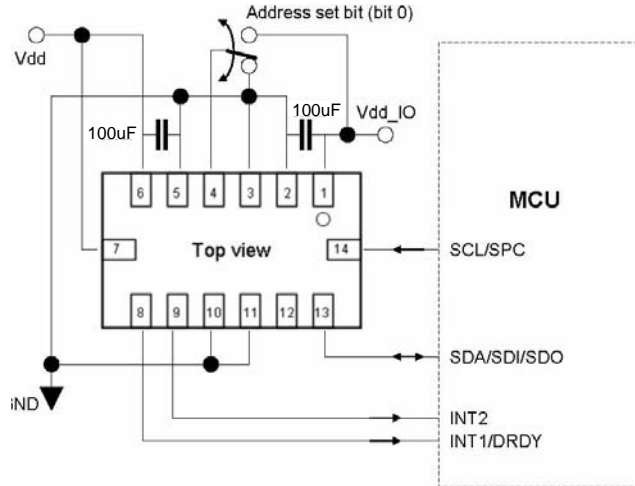
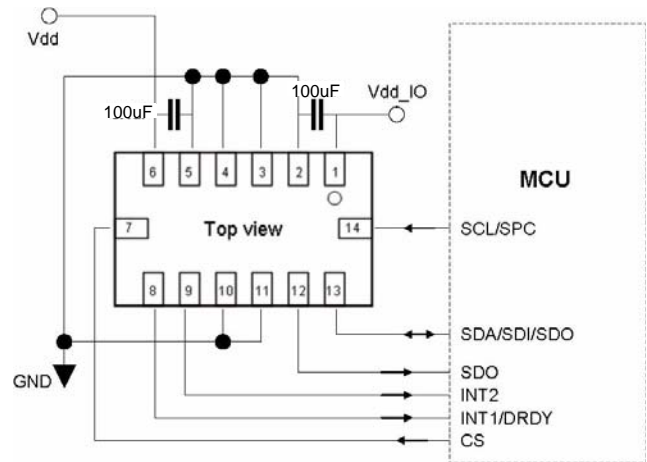

Figure 15. I²C Connection to MCU
Figure 16. SPI Connection to MCU
The MMA7450L also uses serial peripheral interface communication as a digital communication. The SPI communication is primarily used for synchronous serial communication between a master device and one or more slave devices. See Figure 16 for an example of how to configure one master with two MMA7450L devices. The MMA7450L is always operated as a slave device. Typically, the master device would be a microcontroller which would drive the clock (SPC) and chip select (CS) signals.
- Place a ground plane beneath the accelerometer to reduce noise, the ground plane should be attached to all of the open ended terminals shown in Figure 15 and Figure 16.